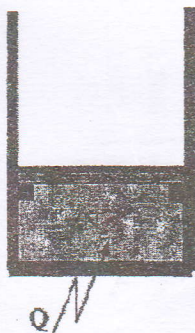

Figure P.10
10. Nitrogen (5 kg) is contained in a piston cylinder device shown in **Figure P.10** initially at a pressure of 800 kPa and a temperature of 127°C . There is a heat transfer to the system until the temperature reaches to 527°C . It takes a pressure of 1500 kPa to lift the piston. Sketch the process on $P - V$ and $T - V$ diagrams and determine the total work and heat transfer in the process. [Take $R = 297 \text{ J/kgK}$ and $c_v = 743 \text{ J/kgK}$] [8]